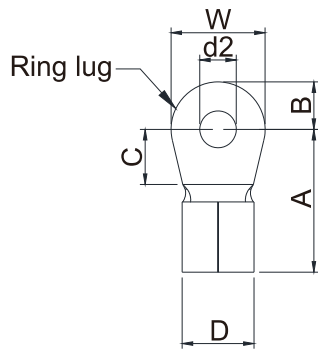
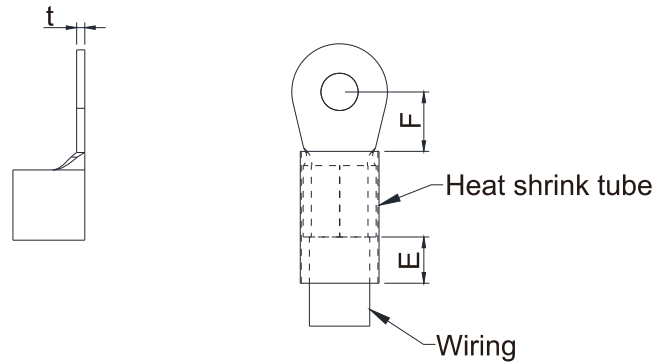

Fig.1
Fig.2
- Use the specified ring lug for main circuit terminal wiring. See Fig.1 and Fig.2 for ring lug specifications. For other types of wiring use the wires that comply with the local regulation.
- After crimping the wire to the ring lug (must be UL approved), UL and CSA approved R/C (YDPU2), install heat shrink tubing rated at a minimum of 600 VAC insulation over the live part. Refer to Figure 2 below.